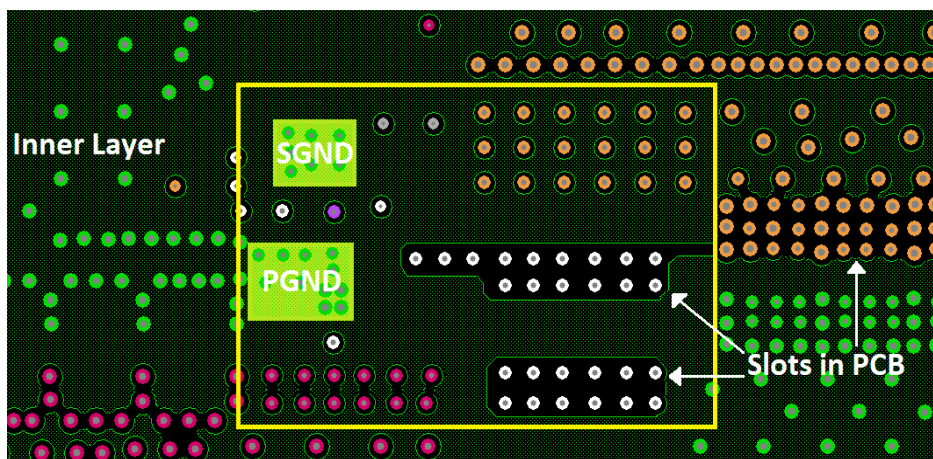

Figure 47. Layout Example - SGND is Connected to PGND Through Internal Layer
3. Use full ground planes in the internal layers (underneath the module) with shared SGND and PGND to simplify the layout design. Renesas recommends using slots (as shown in Figure 47 on page 29) to ensure that the switching current avoids the SGND pad of the module. Use as much GND plane as possible for the layer directly above the bottom layer (containing components such as input caps and output caps). Use the top and bottom layer to route the EN, VCC, and PGOOD signals.